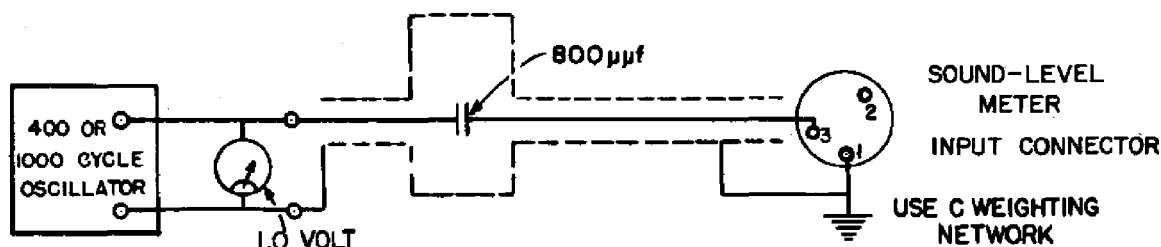

Figure 6. Circuit for Calibrating Amplifier Gain.
3.9 INTERNAL NOISE. Internal noise should not normally affect readings with the attenuator switch set at 40 or higher. If desired, the following procedure can be used to determine how much noise is generated in the instrument. Remove the microphone, and connect an 800- μ f capacitor across terminals 1 and 3 of the microphone socket. This capacitor and its connecting leads must be completely shielded in a metal can connected to either the metal part of the microphone socket or to terminal 1, which is grounded. The connection is identical to that shown in Figure 6, except that a short circuit replaces the oscillator.
3.10 AMPLIFIER GAIN. With the Sound-Level Meter set for normal operation with C weighting, apply a 1.0-volt, 400- or 1000-cycle signal to the microphone socket through a shielded 800-μf capacitor, as shown in Figure 6. The meter reading should agree with that given below for the sensitivity of the microphone used. (Microphone sensitivity is listed at the front of this manual, as well as on a label inside the instrument.)